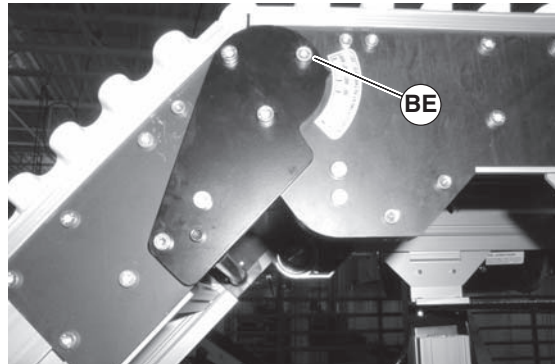
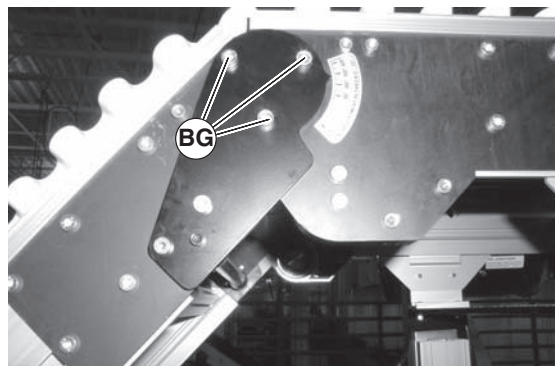

Figure 46
Figure 48
1. Conveyor is shipped from factory locked in the flat position, to unlock conveyor knuckle remove the gold screw (Figure 46, item BE) on both sides of the conveyor.
3. Loosen screws (Figure 48, item BG) on both sides of knuckle.
5. Tighten screws (Figure 48, item BG) on both sides of knuckle to 100 in-lbs (12 N-m). If applicable, replace the gold locking screw (Figure 46, item BE).
5. Tighten screws (Figure 48, item BG) on both sides of knuckle to 100 in-lbs (12 N-m).